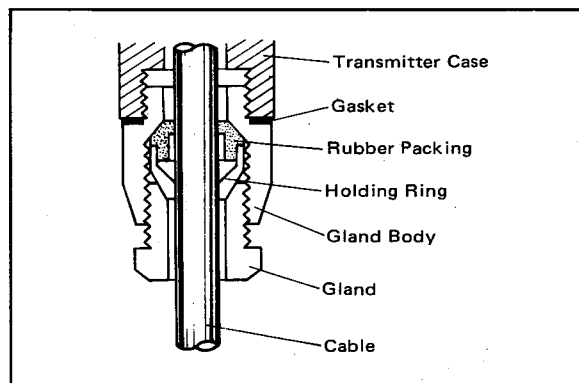

Figure 2-16. Two-Wire Transmitter Cable Inlet.
- (3) Mount the cable gland on the wiring hole. The nut which has been removed in item (2) is not necessary. Screw the gland body securely into the wiring hole (see Figure 2-16). In this case, loosen the gland nut so as not to twist the cable. When the gland is mounted, tighten the gland nut firmly on the gland to keep out moisture. However, if the gland nut is screwed too tight, the cable may be damaged.